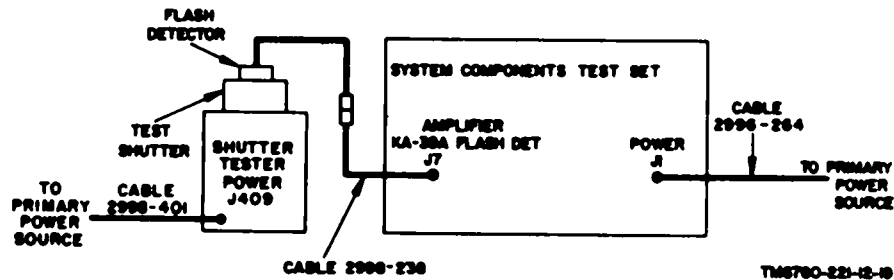

Figure 19. Connection diagram for testing flash detector.
- (16) Set the FUNCTION switch in the MILLISECOND TIMER section to WIDTH, the TIMER switch to INTERNAL, and the RANGE switch to 100. Actuate the RESET switch to reset the meter. If necessary, zero the meter using the ZERO ADJUST control.
- (17) On the ACCS control box, momentarily actuate and release the SALVO switch. The MILLISECOND TIMER meter should indicate 60 milliseconds ± 20 percent. Reset the MILLISECOND TIMER meter and repeat the test to insure that the reading is within the required tolerance.
- (18) Set the FUNCTION switch in the MILLISECOND TIMER section to INTERVAL, and the RANGE switch to 300. Reset and zero the MILLISECOND TIMER meter.
- (19) Set the SALVO RATE switch in the CONTROL BOX section to INTERVAL.
- (20) On the ACCS control box, momentarily actuate and release the SALVO switch. The MILLISECOND TIMER meter should indicate from 110 to 200 milliseconds. Reset the MILLISECOND TIMER meter and repeat the test to insure that the meter reading is within the required tolerance.
- (21) Set the TIMER switch in the PULSE TIMER section to INTERNAL, and the INTERVAL switch to CLOCK DIRECT. Reset the PULSE TIMER clock by use of the RESET switch.
- (22) Set the BREAKER TEST switch in the CONTROL BOX section to the ON position; hold the BREAKER TEST switch in the ON position until the CONTROL POWER indicator in the CONTROL BOX section goes out to show that the circuit breaker in the ACCS control box has opened. The PULSE TIMER clock should indicate from 10 to 60 seconds.
- (23) On the ACCS control box, set the POWER switch to OFF. Disconnect the clip lead of cable 2998234 and replace the cover on the ACCS control box.
- (24) Turn off all power and disconnect the test setup.
a. Connections (fig. 19).
- (1) Connect cable 2998-238 to connector J7 on the system components test set.
- (2) Place the test shutter over the light source on the shutter tester.
- (3) Position the flash detector on the test shutter.
- (4) Connect the flash detector cable connector to the free connector on cable 2998-238.
- (5) Connect the system components test set (cable 2996-264) and the shutter tester (cable 2998-401) to